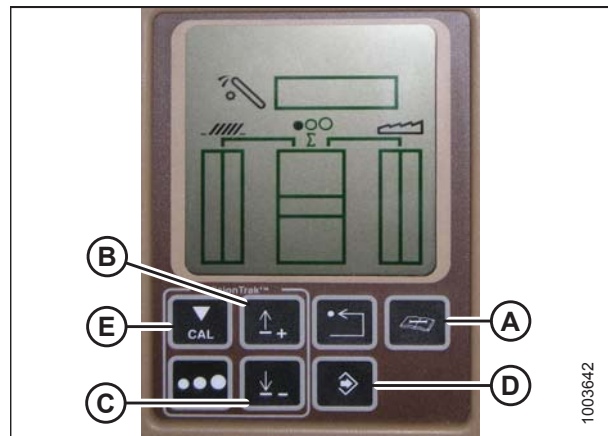

Figure 3.253: John Deere Combine Display
Do **NOT** use the active header float function (A) in combination with the MacDon auto header height control (AHHC)—the two systems will counteract one another. The header symbol (B) on the display should NOT have a wavy line under it and should appear exactly as shown on the Active Header Control Display in Figure 3.253, page 168.